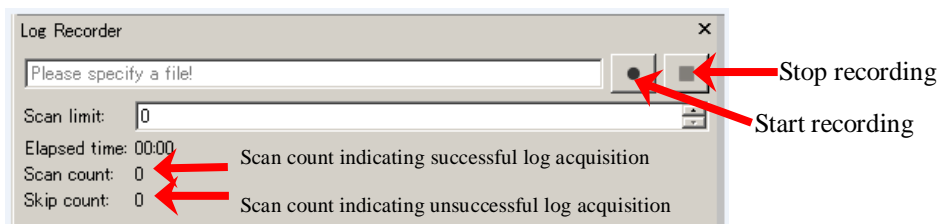

Figure 3-14 Data logging window
- ③ When data logging window is displayed as in figure 3-14, enter the number of scans you want to record in the scan limit box (if the scan limit is 0, records until stop button is clicked)
- ④ After entering the number of scans, click start recording button as show in figure 3-14.